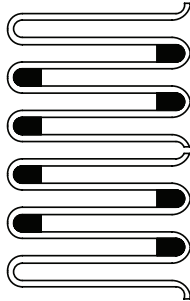

Figure 2 - Coil Spacers for sizes 1070 through 1090T
B. Sizes 1070 through 1090T – Insert coil spacers in the last 4 coils of each grid half (8 spacers per grid half), as shown in Figure 2.